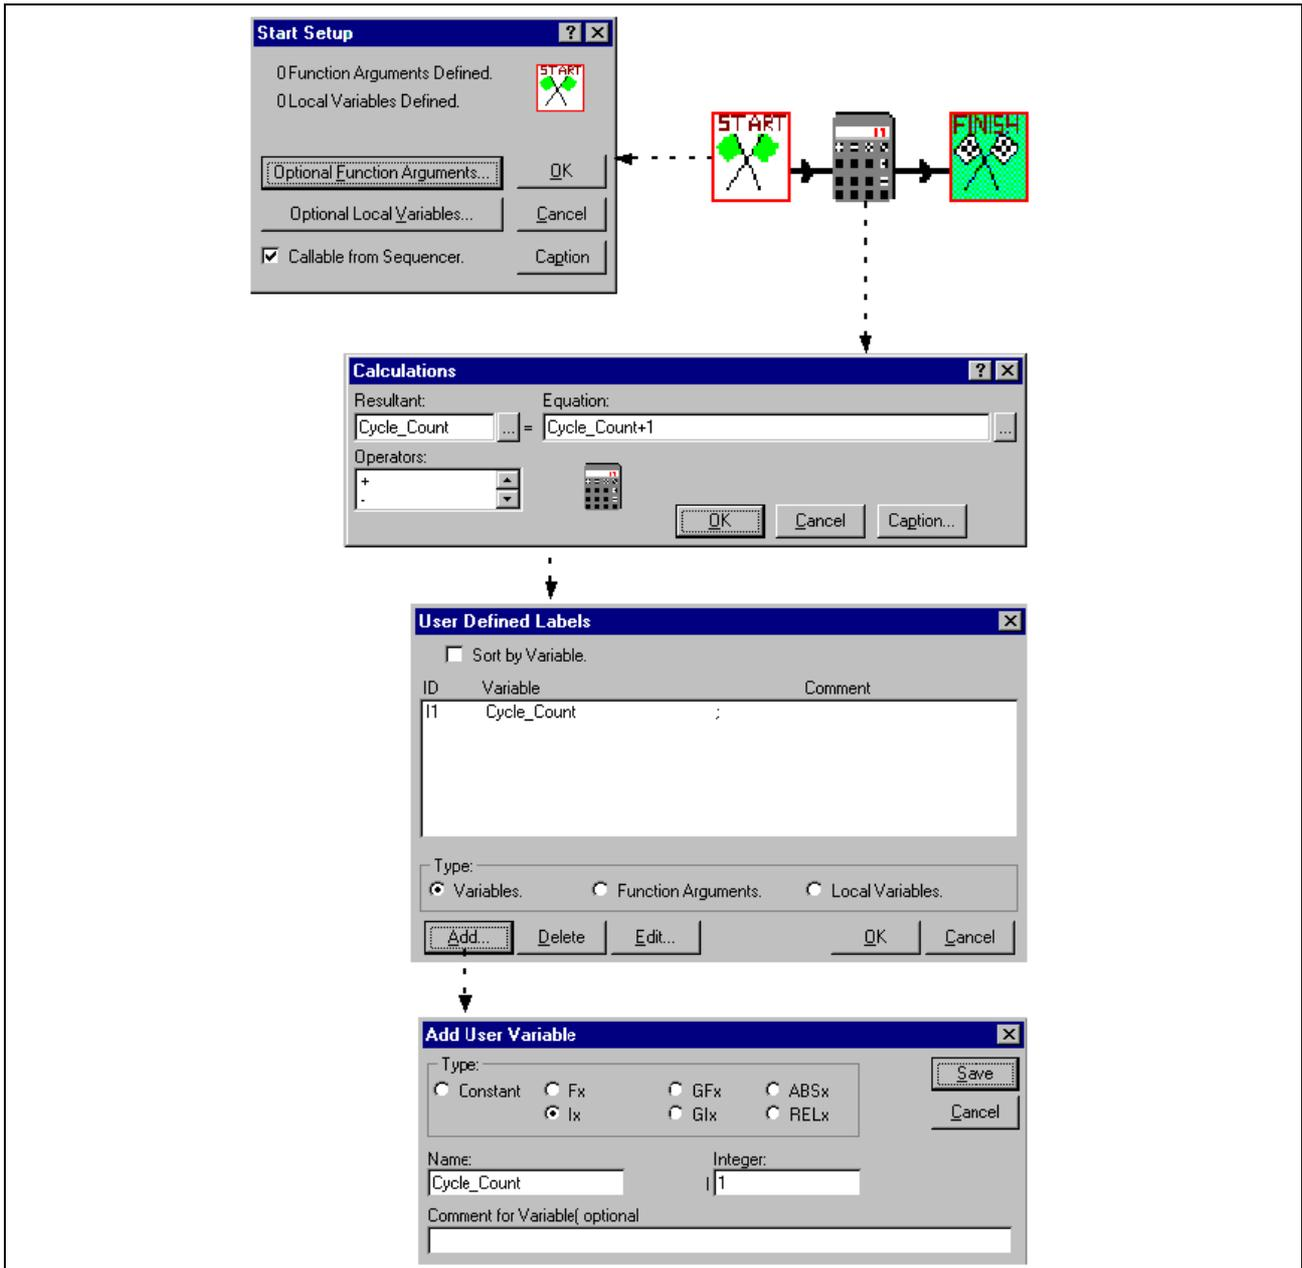

Figure D-4: COUNT subroutine
3. Create the subroutine illustrated below according to the selections and values given in their corresponding dialog boxes. Refer to Program Layout - Function / Subroutine - COUNT, Figure D-4.